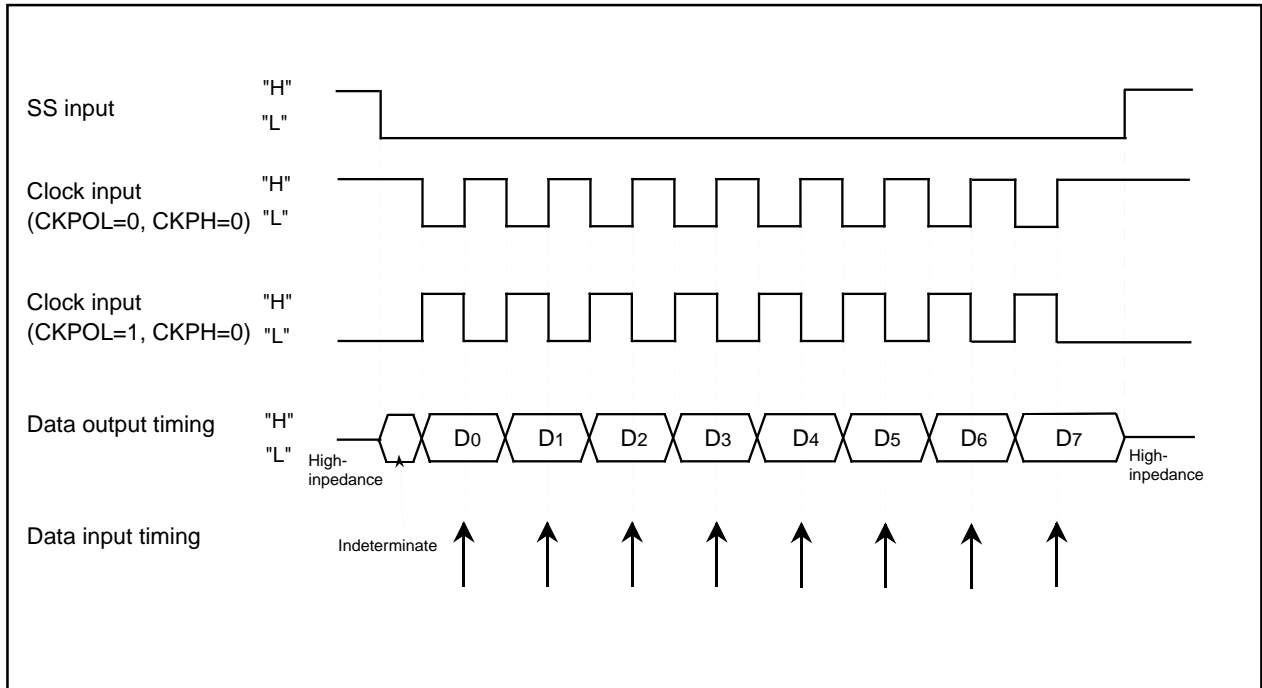

Figure 20.8 The transmission and reception timing (CKPH=0) in slave mode (external clock)
- With "0" for bit 1 (CKPH) of UARTi special mode register 3 (addresses 032516 and 02F516 [i = 3 or 4]), when an SSi input pin is H level, output data is high impedance. When an SSi input pin is L level, the serial transmission start condition is satisfied, though output is indeterminate. After that, serial transmission is synchronized with the clock. Figure 20.8 shows the timing.